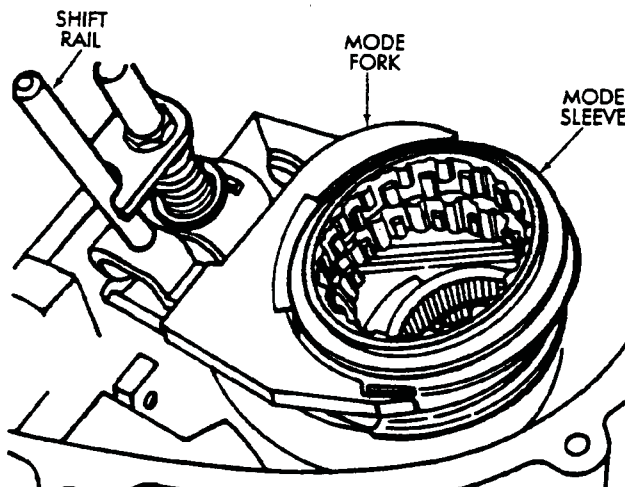

Fig. 4-51 Install Mode Fork, Shift Rail And Mode Sleeve
42. Move range sector to high range position. Then assemble and install mode fork, shift rail and mode sleeve (Fig. 4-51).